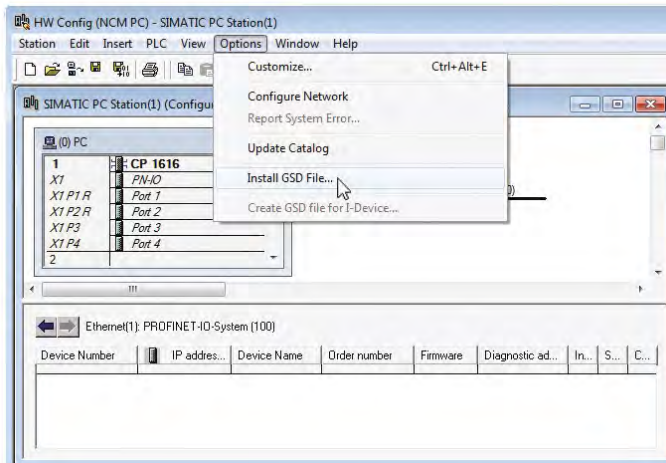

Fig. 61: HW Config (source: Siemens)
- For this purpose, select the following options in window "HW Config" (Fig. 61):